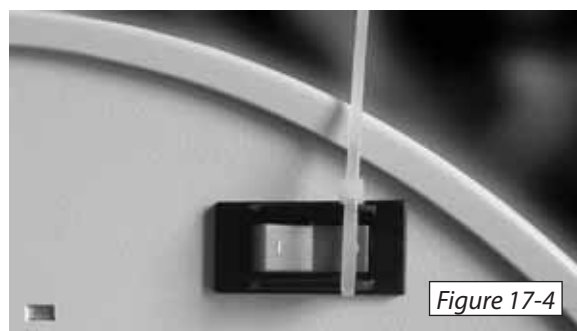

Figure 17-4
6. On the backside of the chassis, there is an on/off switch. Cut off and discard the shipping tie on the switch. *[Figure 17-4]*